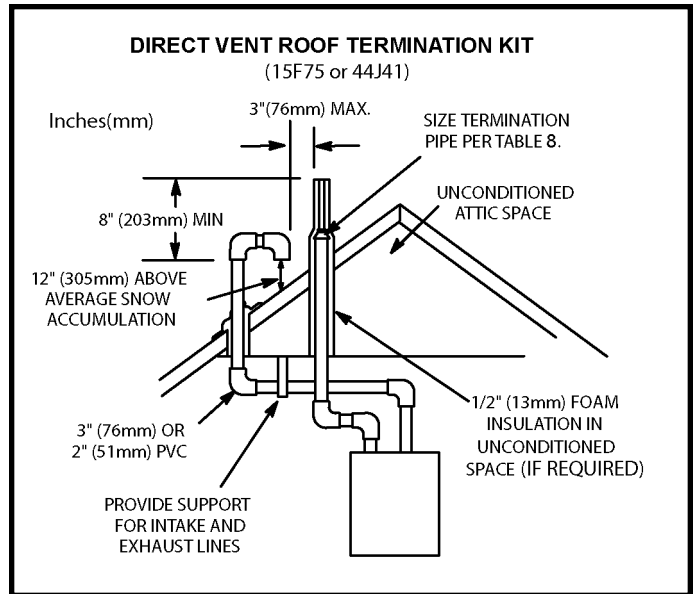

Figure 33
Intake and exhaust pipes may be routed either horizontally through and outside wall or vertically through the roof. In attic or closet installations, vertical termination through the roof is preferred. Figures 33 through 43 show typical terminations.
3. On roof terminations, the intake piping should terminate straight down using two 90° elbows (See Figure 33).